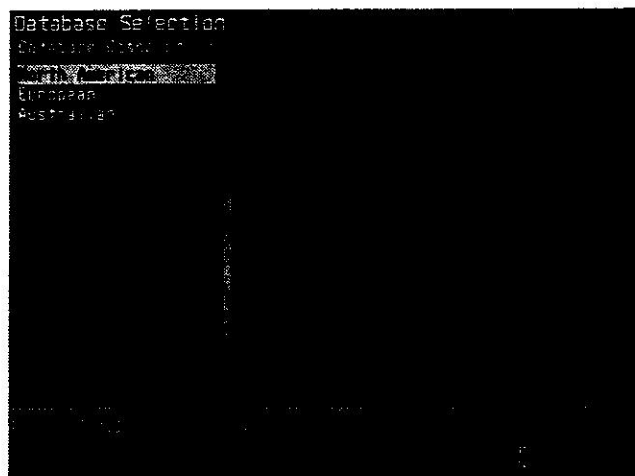

Figure 1-17
NOTE Press [F2] and a menu of available regional databases will be displayed (see Figure 1-17). Use the cursor keys to highlight the selection of your choice and press [ENTER]. You will be returned to the vehicle specification screen (see Figure 1-16).
- [F1] – Access the "Vehicle Specs" to change the manufacturer or make entry. When you have finished selecting the vehicle specifications, a Vehicle Specification Entry screen will be displayed (see Figure 1-17). Press [F3] to enter new vehicle specifications, [F5] to edit the existing specifications, or [F10] to return to the Main Menu;